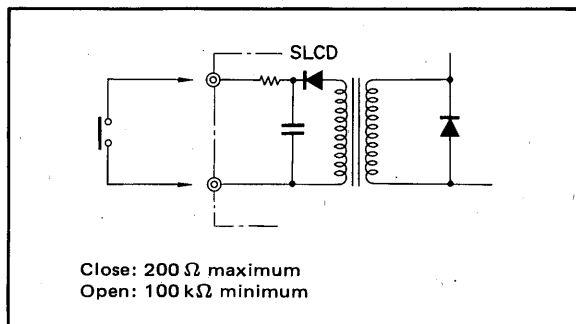
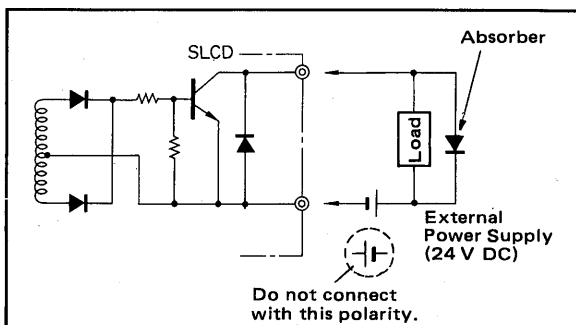

Figure 3-1. External Contact (Status) Input Connections.
Figure 3-3. Surge Absorber Connection.
- (1) Be sure to use solderless crimp-on lugs on all cable connections.
- (2) External contact and voltage input must be the proper rating. (See Figures 3-1 and 3-2) Excess conductor resistance and the consequent voltage drop must be taken into account.
- (3) When driving remote equipment using transistor contacts, such as fail output, alarm output and status output, make the wiring in accordance with the following instructions:
- When driving a relay or other inductive device, connect a surge absorber (protective diode) in parallel with the load. (See Figure 3-3.)
- When connecting a power supply to an external load, observe the correct polarity (see Figure 3-3).